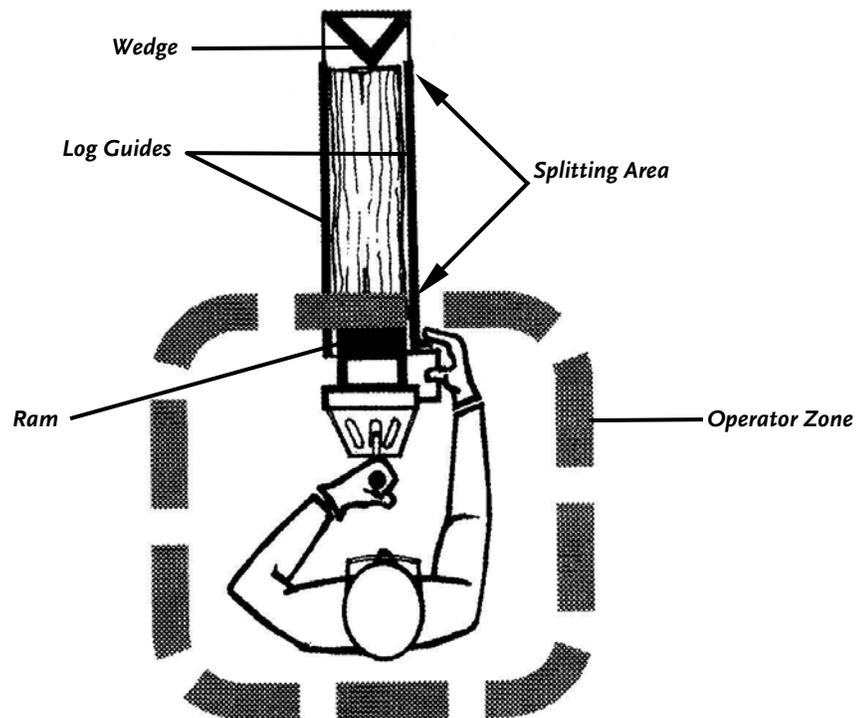

Figure 6
- DO NOT PUT ANY PART OF YOUR BODY WITHIN THE SPLITTING AREA. USE A STICK IF YOU NEED TO REMOVE DEBRIS FROM THE SPLITTING AREA (FIGURE 6).